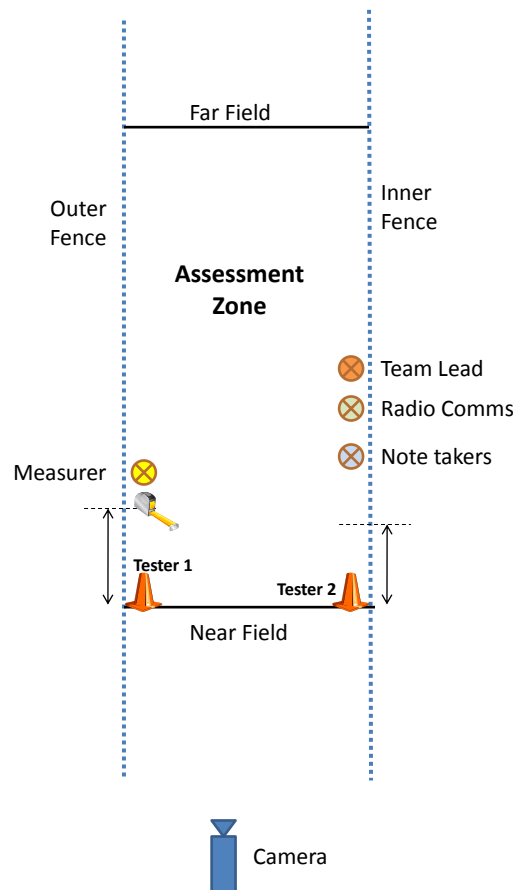

Figure 1: Schematic for Activity 1 (initial location of test personnel)
2. The Field Team places the orange cones alongside both fences at the beginning of a sector (see Figure 1). Two members of the field team (Tester 1 and Tester 2) are instructed to stand next to the two orange cones.
3. See Figure 1 for a schematic of the activity and initial location of field testing team.